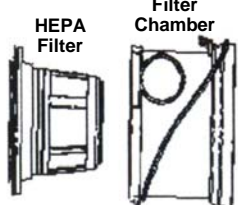

Fig. 9
4. Remove the HEPA Filter from the filter chamber. (Fig. 9)